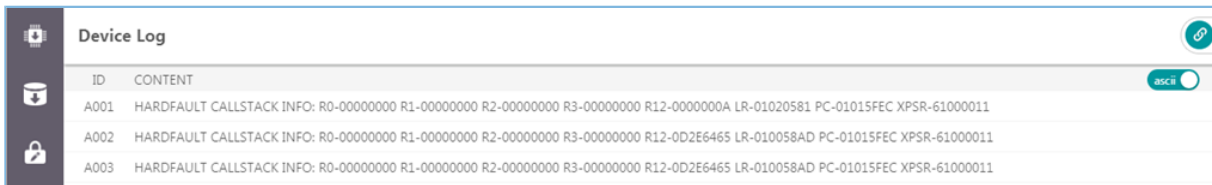

Figure 3-46 Device logs in ASCII characters
- **ascii**: The device logs are displayed by ASCII character as shown in Figure 3-46.